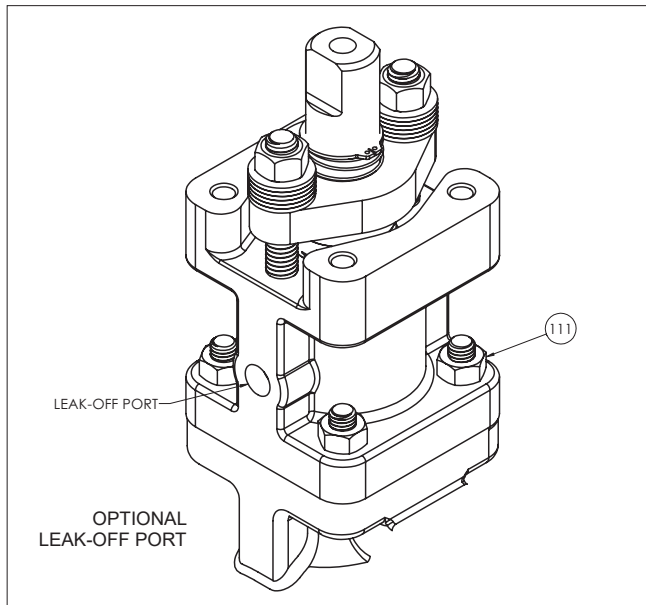

Figure 5.
- Remove the retaining ring (72) and grounding spring (70) from stem (4).
- Remove hex nuts (30), disc springs (31) and compression plate (20). Pay careful attention to the orientation of the disc springs (31) and make sure they are in the same orientation during assembly.
- Remove hex nuts (111) and lift the *Emission-Pak* housing (101) straight up until the ball end of the stem clears the valve body (1) (see **Figure 5**).